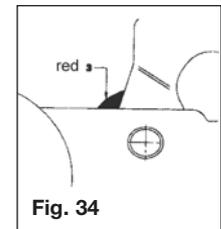

Fig. 34
3. If only a red indicator is visible (Fig. 34/Item 3), then this may have the following causes: